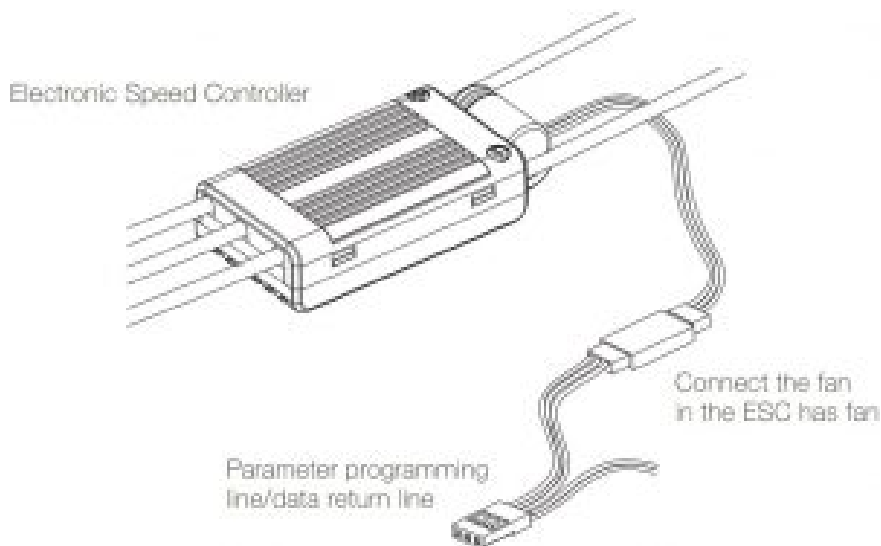
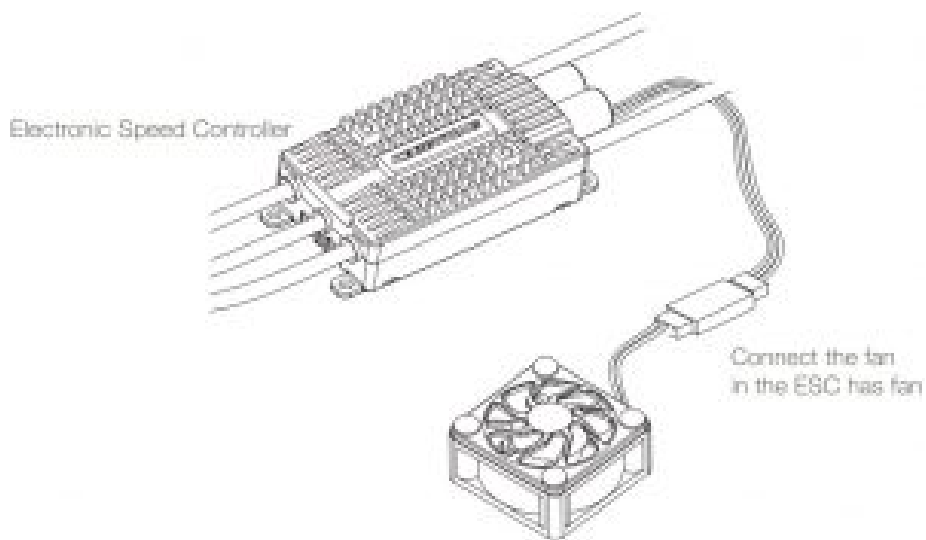

Figure 6
Figure 7
- Use Platinum ESC-VBAR NEO Gyro data return adapting line to connect “-+P”ESC parameter programming interface/data return interface of Platinum V4/V4.1 ESC (as shown in figure 7). The 25A ESC need to use interface for fan to connect ESC parameter programming line/data return line(as shown in figure6).
- Fan interface is for connecting matching fan of ESC (as shown in figure 7). No need to connect if there is no fan.
- The final connection effect is shown in figure 7.